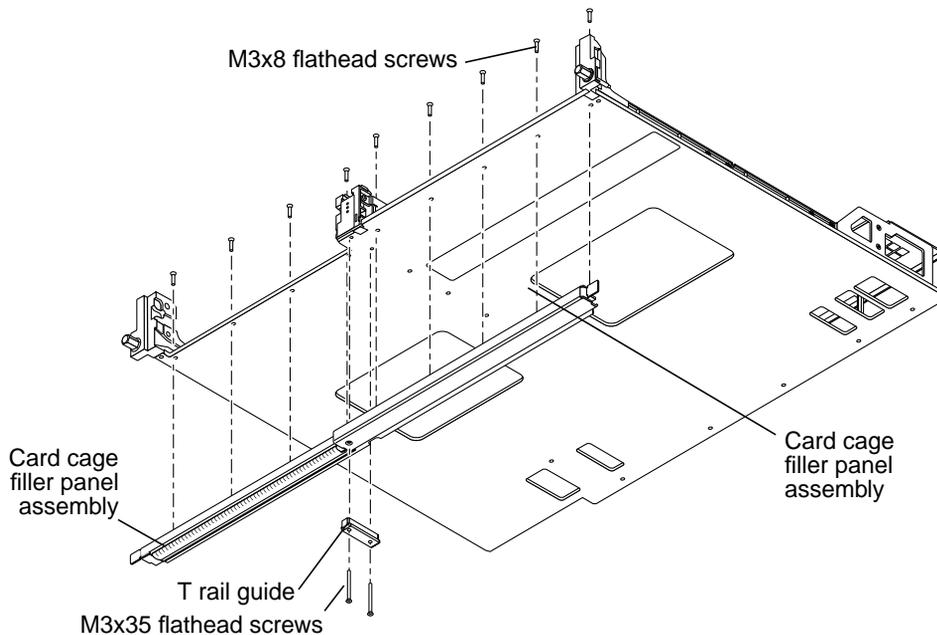

FIGURE 3 Removing the Card Cage Filler Panel
**4. Remove the card cage filler panel assembly from the existing carrier plate and set aside. See Figure 3.**